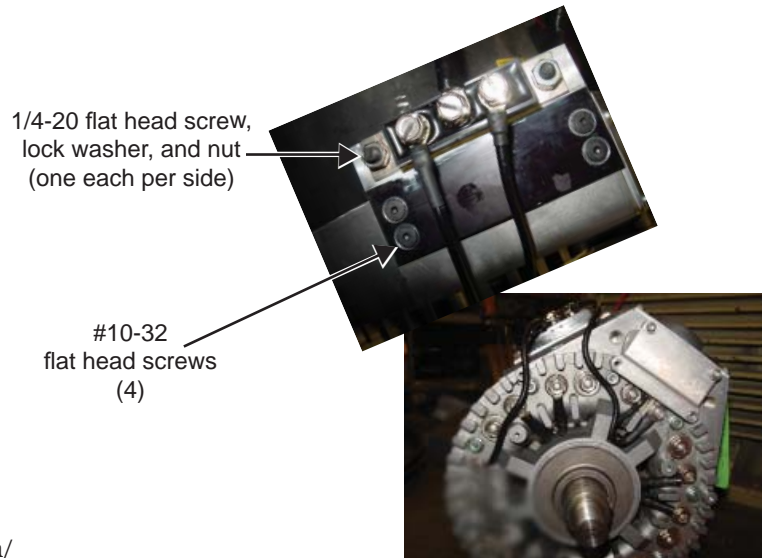

FIGURE 1
- b. Apply a layer of heat sink compound such as GC/Waldon HSC#10-8109 zinc oxide-filled silicone or its equivalent on the back of the module before setting in place on the module bracket. See Figure 1. **The diagram stamped on the side of the module can face either the drive end or the anti-drive end of C703 alternator.**
- c. Secure module on bracket with 1/4-20 flat head screws, lock washers, and nuts provided in the kit. See Figure 1. Torque to 5.1 Nm/45 lb. in.
2. Mount module bracket (with module in place) on C703 drive end housing as shown in Figures 1 and 2: